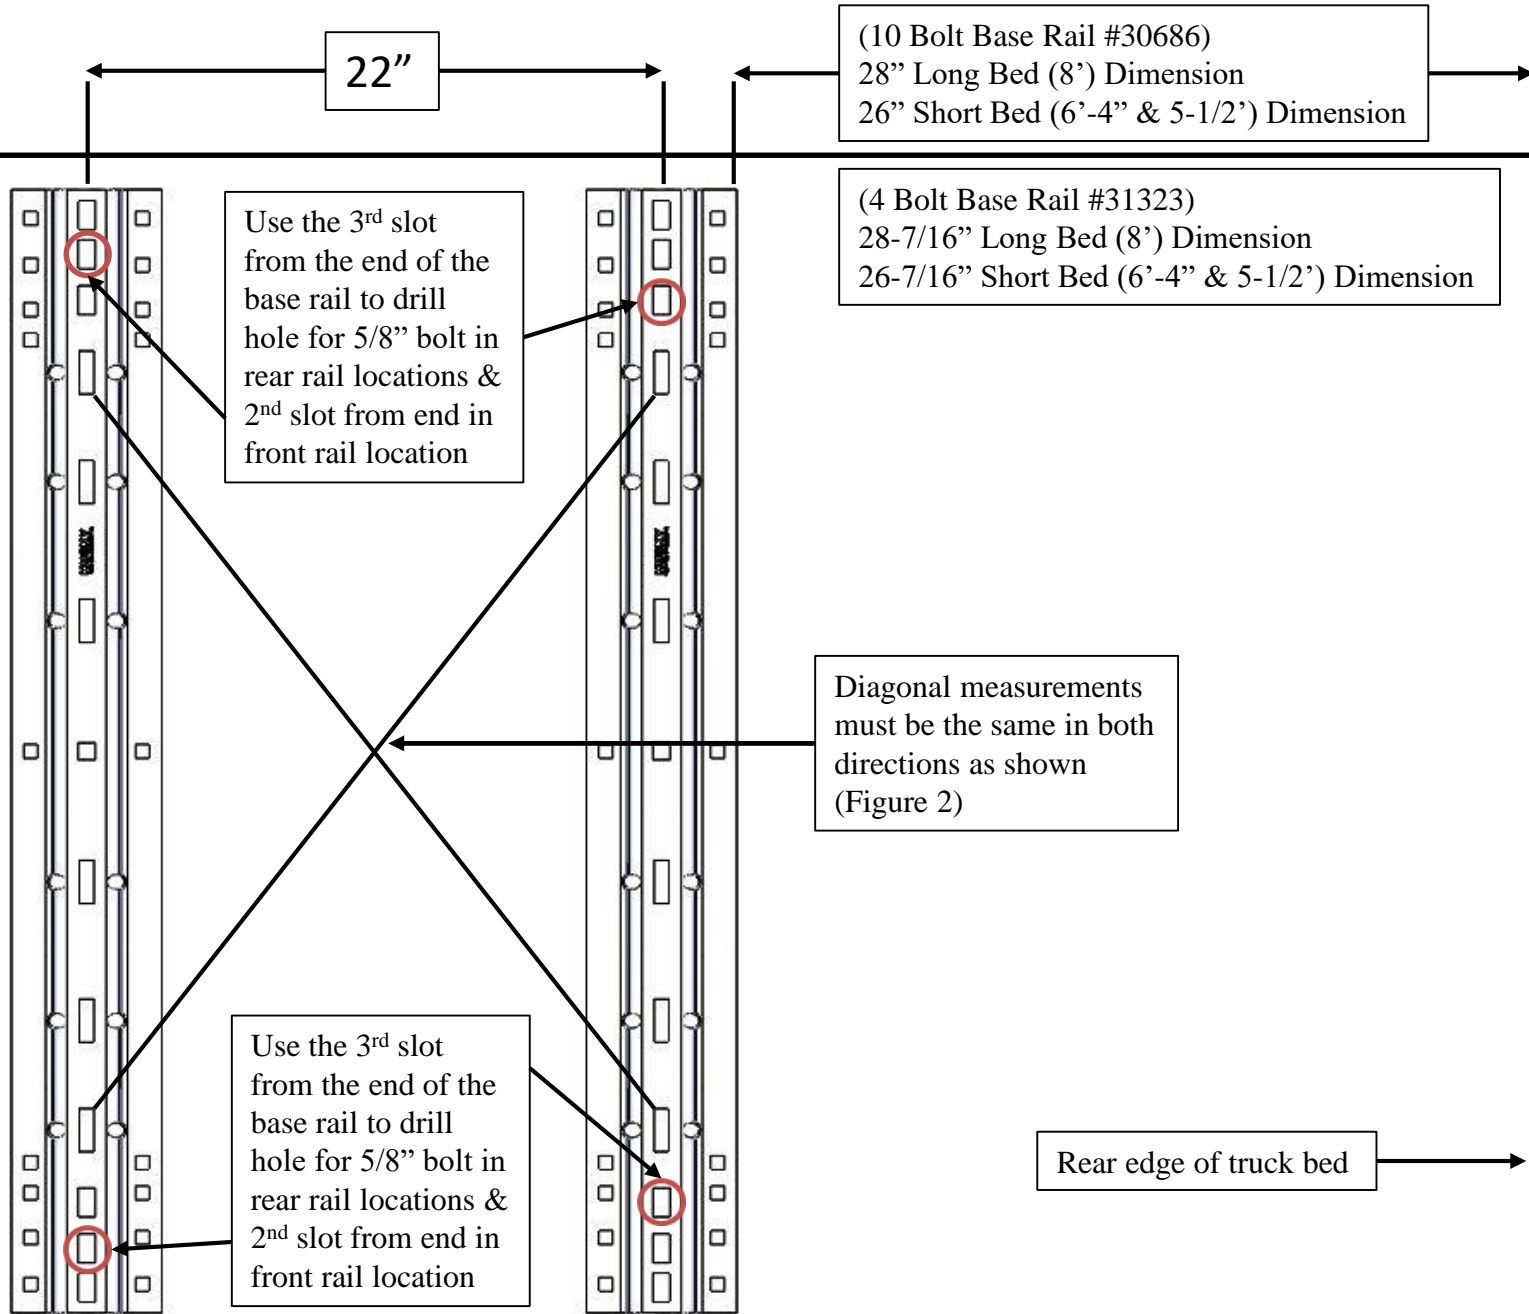

Figure 1
1. Place the two bed rails across the truck bed between the wheel wells. See Figure 1. Position the 5th wheel uprights on to the bed rails so that the tabs in the base of each upright will fit into the slots in the ends of the bed rails. Secure the uprights in place with the rail hitch pins and hair pins supplied with 5th wheel installation kit. Securely attach 5th wheel cross member to uprights.
2. Position the bed rail assembly in truck bed as shown on Figure 1. Be sure bed rails are parallel by measuring diagonally as shown in Figure 2. Measurements should be less than 1/4" different.